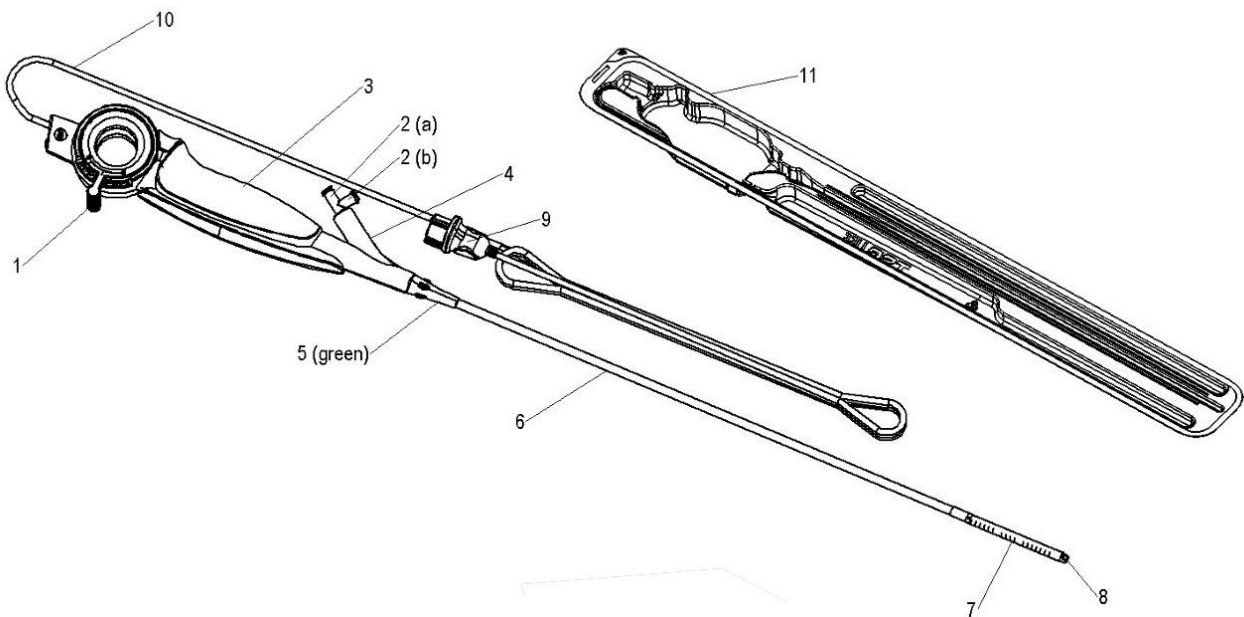

Figure 2. Cystoflex single use flexible cystoscope.
6. Connect the irrigation supply tube of a compatible irrigation source (syringe, gravity-fed bag) to the irrigation port on the Cystoflex handle (**Figure 2**). Ensure that there is no leakage and that the water is discharging from the distal tip.